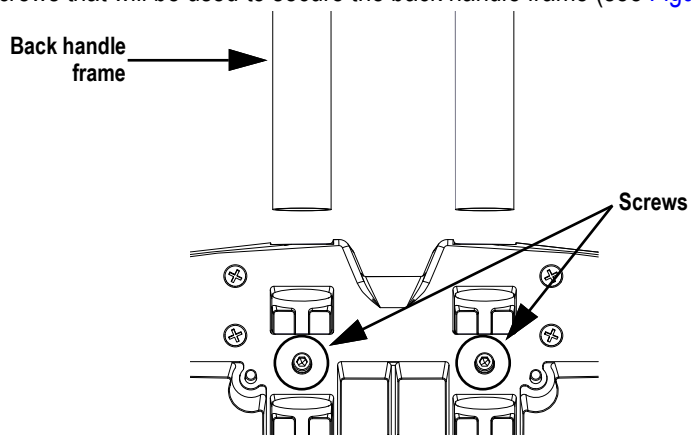

Figure 2-4. Loosen Screws
2. Loosen the two screws that will be used to secure the back handle frame (see Figure 2-4).